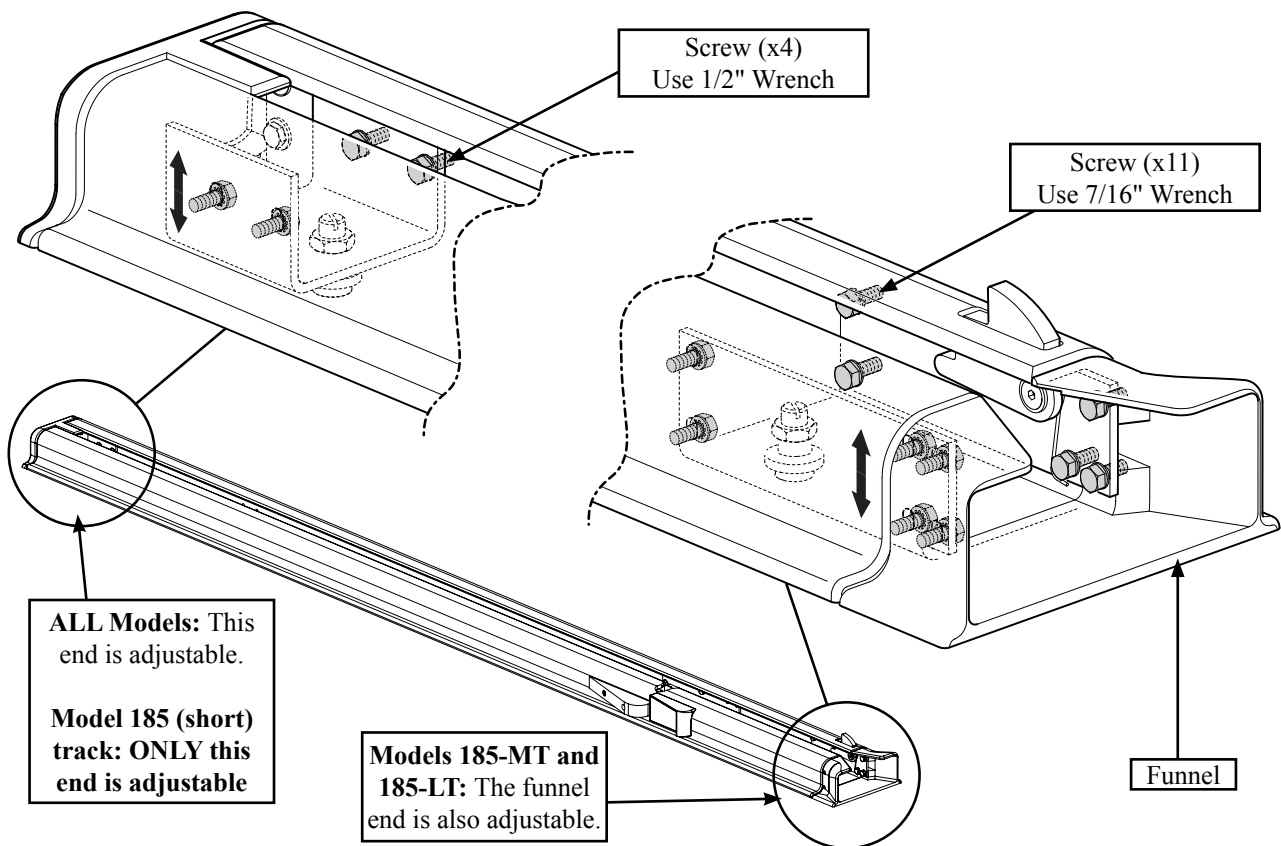

Figure 16 - Adjusting the Height of the Fastener-Post Brackets (Model 185-MT or 185-LT shown)
1. **All models:** Loosen but do not remove the four screws on the end opposite the funnel (Figure 16) using a 1/2" socket or angled open wrench. Access the screws either from above or below the Stat Trac.
2. **Models 185-MT, 185-LT only:** Loosen but do not remove the 11 screws on the funnel end (Figure 16) using a 7/16" socket or angled open wrench. (There are five screws on the side with the safety stop, and six on the opposite side).